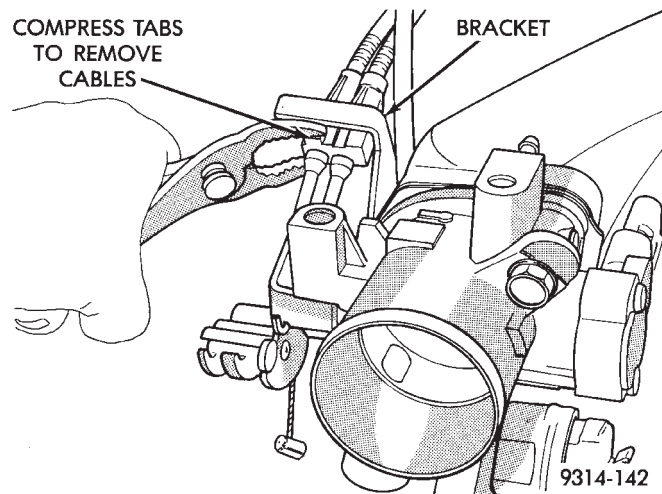

Fig. 15 Removing Throttle Cable and Speed Control Cable
(1) Release fuel system pressure. Refer to Group 14, Fuel System Pressure Release Procedure.
(2) Drain cooling system. Refer to Group 7, Cooling System for procedure. Disconnect negative cable from battery.
(3) Disconnect air tube from air cleaner and throttle body.
(4) Hold throttle lever in wide-open position. Remove throttle cable and speed control cable from lever.
(5) Compress locking tabs on throttle cable and speed control cable and remove them from bracket (Fig. 15).